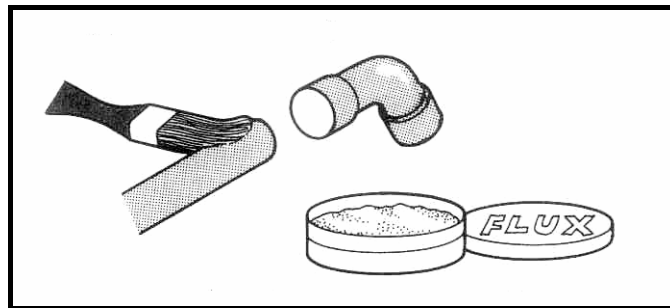

FIGURE 1.1
- D air-fuel mixture. (1)
1.5 What is the purpose of using flux when soft-soldering as shown in FIGURE 1.1?